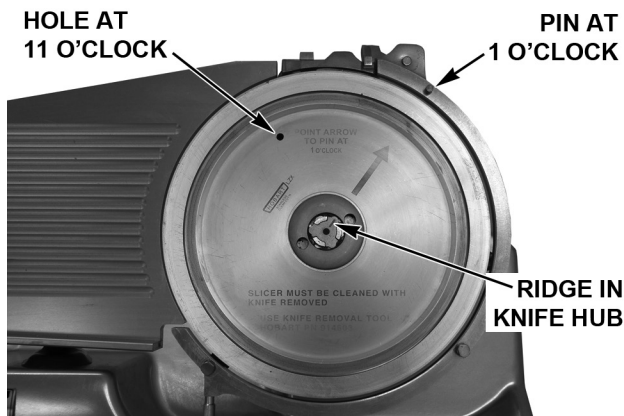

Fig. 20
- Orient the Ridge (Fig. 20) in the Knife Hub so it points to the Pin on the Ring Guard at the 1 o'clock position (Fig. 20).